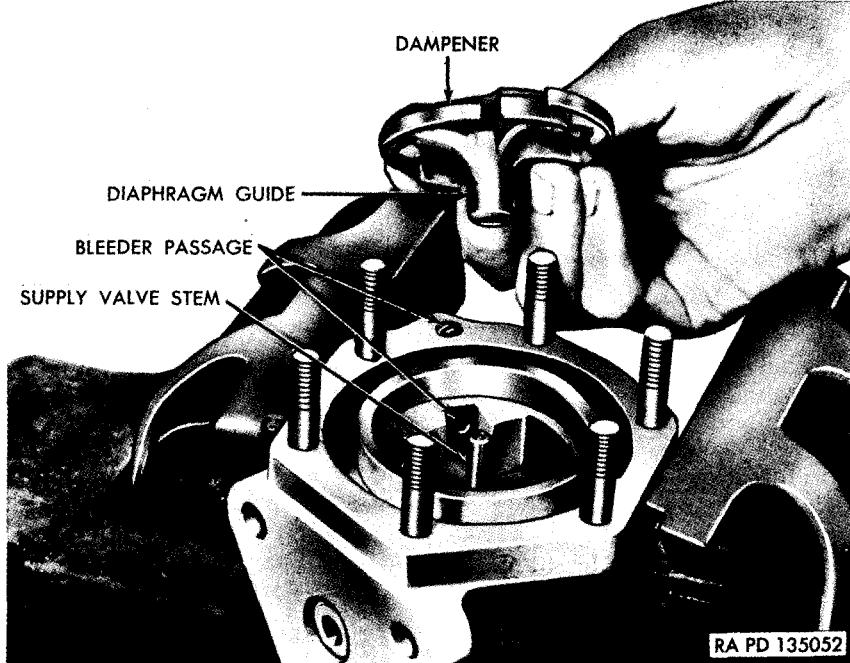

Figure 130. Removing diaphragm guide.
- c. Using fingers, pull out diaphragm guide and dampener (fig. 130).
- b. Position dampener in groove of diaphragm guide and, while holding it in place with fingers, push diaphragm guide (fig. 130) into place.